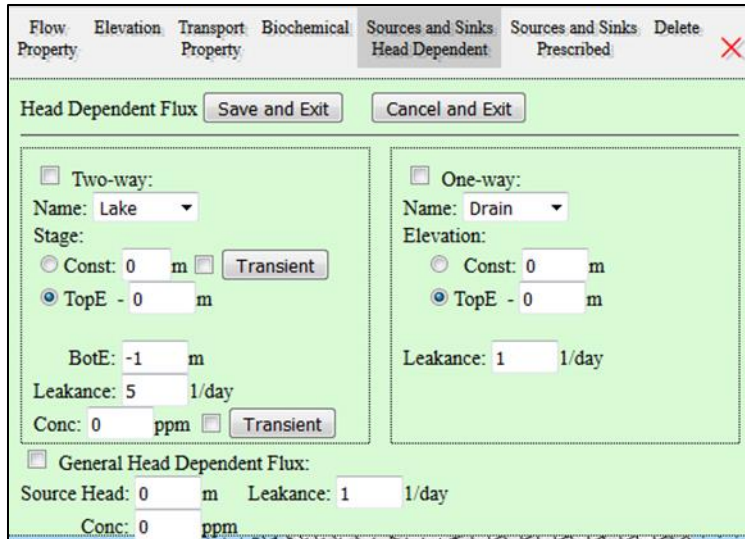

Figure 4-13: Sources and Sinks (Head Dependent) sub-menu (for Zone conceptual features).
Click on the ‘Sources and Sinks Head Dependent’ tab title to access the Head Dependent Flux sub-menu (see Figure 4-13). This sub-menu is used to assign the zone as a two-way or one-way source or sink of water, or as a “general head-dependent flux” (see more below in this subsection).
- the aquifer top elevation minus some prescribed value; by default, the stage is set to the aquifer top elevation, as indicated by the value of zero in the text box next to ‘Top E – ’ shown in Figure 4-13.